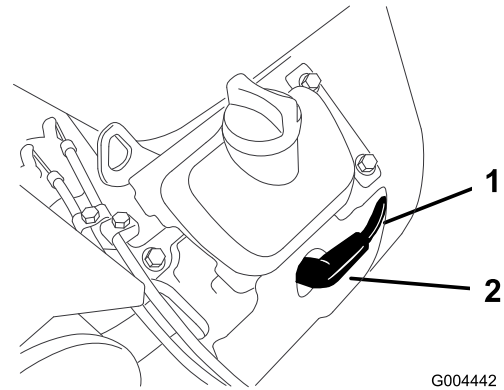

Figure 39
3. Pull the wire(s) off the spark plug(s) (Figure 39). Now clean around the spark plug(s) to prevent dirt from falling into the engine and potentially causing damage.
3. Push the wire(s) onto the spark plug(s) (Figure 39).